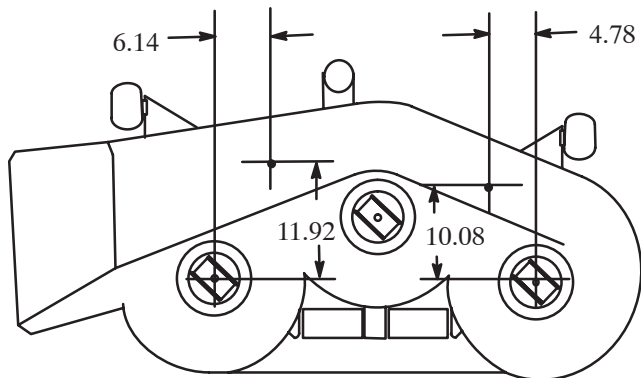

**Figure 2**
- Place the spacers and kickers inside the mower deck while aligning the mounting holes (Fig. 2).
- Secure each kicker to mower deck with a 5/16-18 x 1" bolt and 5/16-18 locknut (Fig. 2). The bolt heads are to be positioned inside the mower deck.